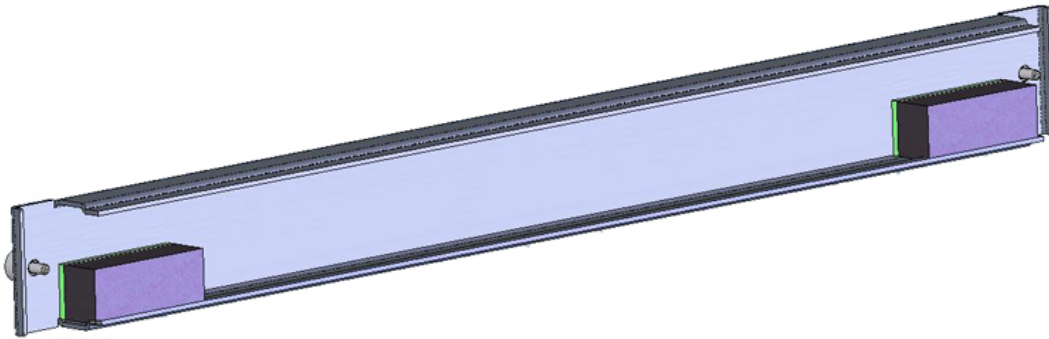

Figure 3-2 Inside View of Modified Front Access Cover
4. Modification is made to inside of cover as shown by the illustration in Figure 3-2.
9. Place the block such it is flush with both the bottom and side edge of the bottom flange, as shown in Figures 3-2 and 3-3.